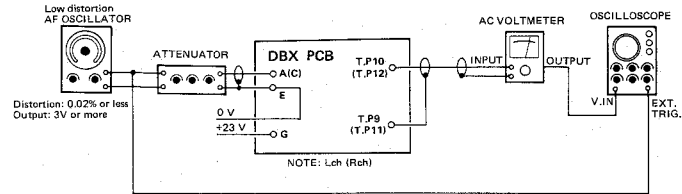

Fig. 5-14 Connections for ENCODER adjustment (1)
2. Make the Fig. 5-14 connections, then feed 100 Hz,  $-8$  dB (308 mV) to A/C (INPUT) terminal.